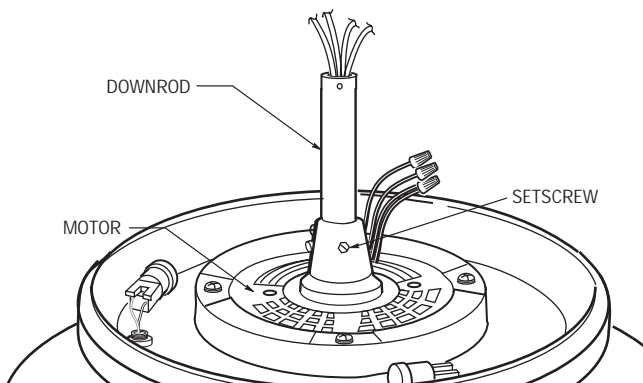

Figure 19
- 9. Install the setscrew (supplied in loose parts bag) in the motor coupling and tighten using the 5/32" setscrew wrench (supplied) (Figure 19).